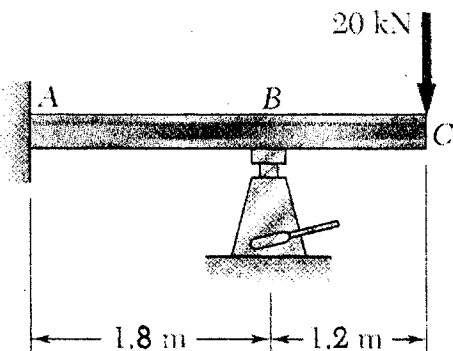

Fig. 3
3. As shown in Fig. 3, a hydraulic jack can be used to rise point  $B$  of the cantilever beam  $ABC$ . The beam was originally straight, horizontal, and unloaded. A  $20 \text{ kN}$  load was then applied at point  $C$ , causing this point to move down. Determine the final value of the reaction at  $B$ . (25%)